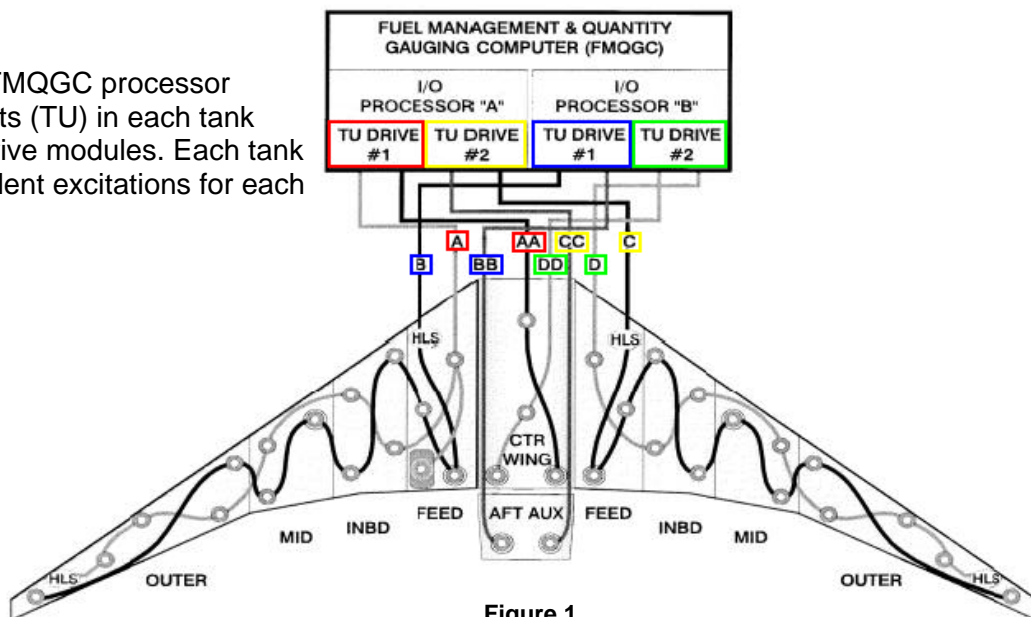

Figure 1
To provide redundancy, each FMQGC processor interfaces with half the tank units (TU) in each tank through two independent TU drive modules. Each tank unit drive module has independent excitations for each fuel tank (Refer to figure 1).